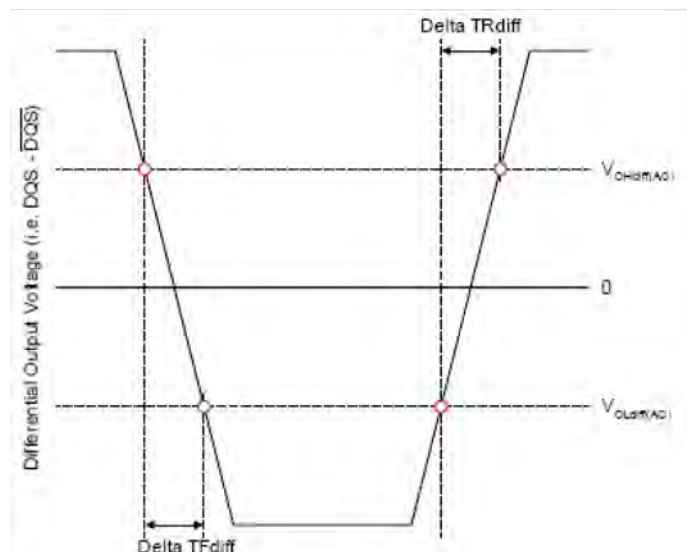

Figure 85 — Differential Output Slew Rate Definition
With the reference load for timing measurements, output slew rate for falling and rising edges is defined and measured between VOLdiff(AC) and VOHdiff(AC) for differential signals as shown in Table 35 and Figure 85.